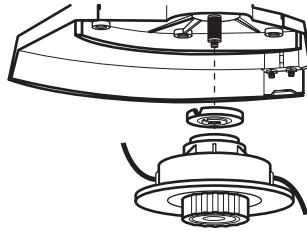

Fig. 26a
6. Remove the trimmer head (B11) by unscrewing clockwise. (See Fig. 26a)